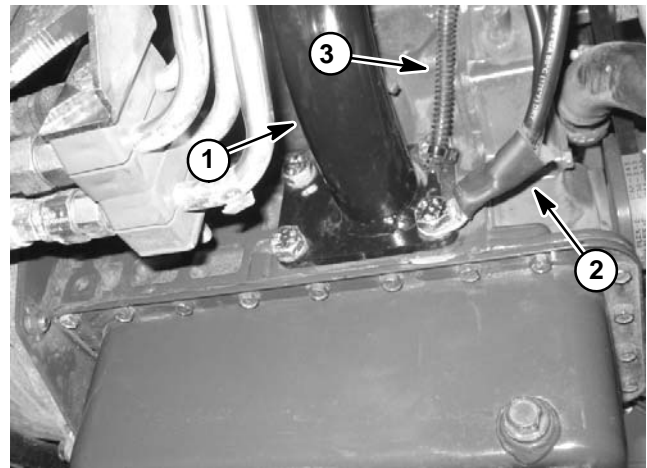

Figure 11
- A. Negative battery cable and wire harness ground from lower engine mount fastener (Fig. 11).